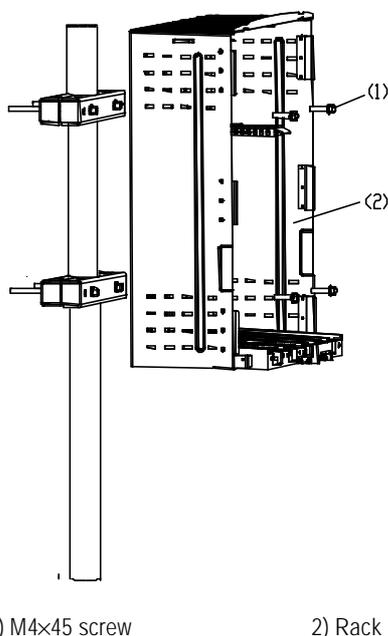

Figure 2-20 Fixing the rack
- 2) Starting from the inside of the rack, install the two M4×45 screws at the upper part of the rack, then check the correspondence between the two screws (at the lower part) and the fastener set 2. If OK, tighten the screws; otherwise, adjust the position of fastener set 2, as shown in Figure 2-20.